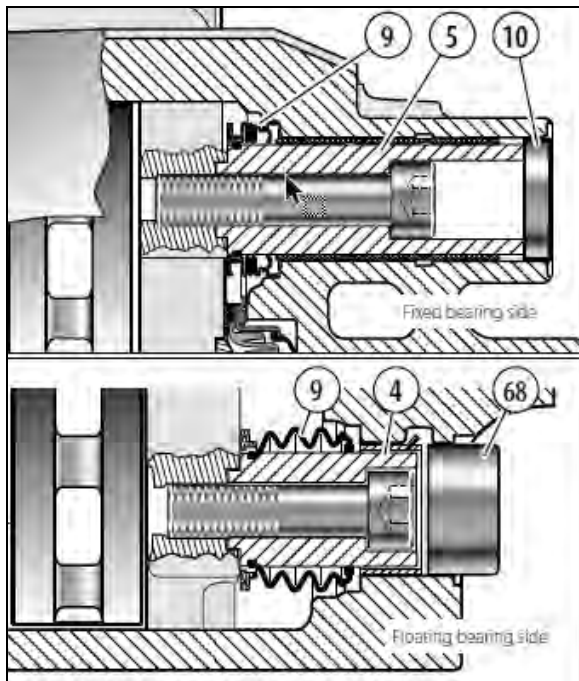

FIGURE 52: CHECKING OF GUIDE PIN AND SEALS
The floating bearing side with guide pin (4c, 4d or 4e) is sealed with inner boot (9c, 9d or 9e) and with cover (68c 68d or 68e). All variants (9), (10) and (68) must be free of any signs of damage (see Figure 52).